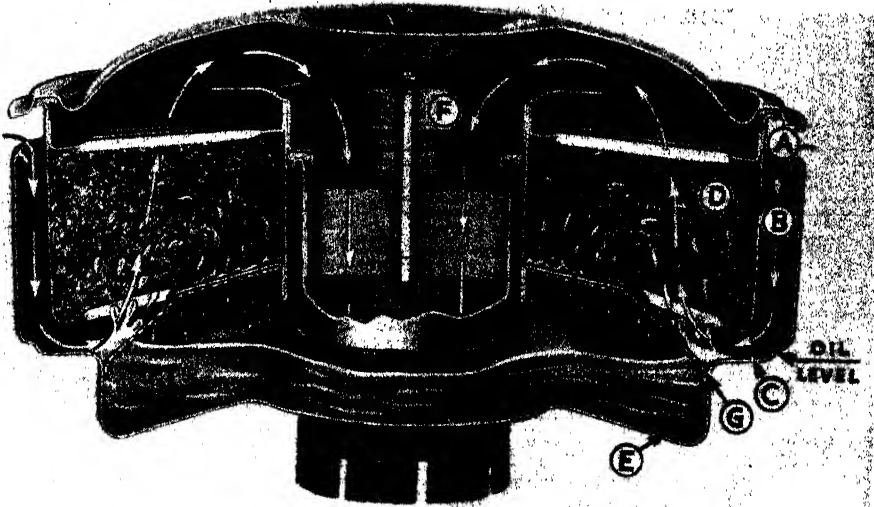

FIG. 155E. OIL BATH TYPE AIR CLEANER.
Fig. 155E is an air cleaner of the oil bath type. Air entering at (A-B) makes a sudden change of direction (C) over a bath of oil thereby dropping a large part of its dust load (E) into the oil. The air then passes through the oil wetted mesh (D) where the smaller dust particles adhere, then on to the carburetor through (F). This type of cleaner has the additional